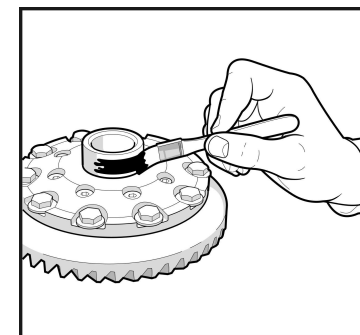

Fig. 21
**2.9** Apply a thin film of high-pressure grease to both bearing journals of the electric locker to prevent seizing. (Fig. 21)